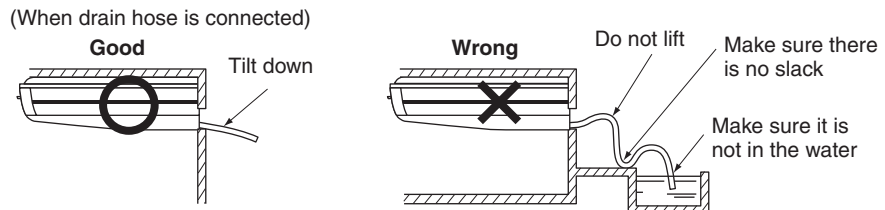
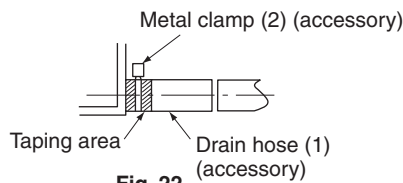

Fig. 21
Fig. 22
- Keep the drain pipe short and sloping downwards at a gradient of at least 1/100 to prevent air pockets from forming. (Refer to Fig. 21)
- Use the attached drain hose (1) and clamp (2).
- Insert the drain hose into the drain socket, up to the gray tape. (Refer to Fig. 22)